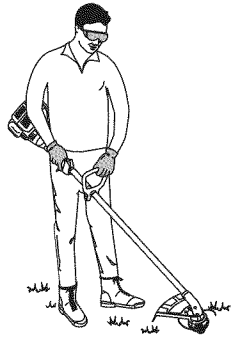

Fig. 9
2. While holding the unit in the operating position (Fig.9), position the D-handle to the location that provides the best grip.
Before operating the unit, stand in the operating position (Fig. 9). Check for the following: